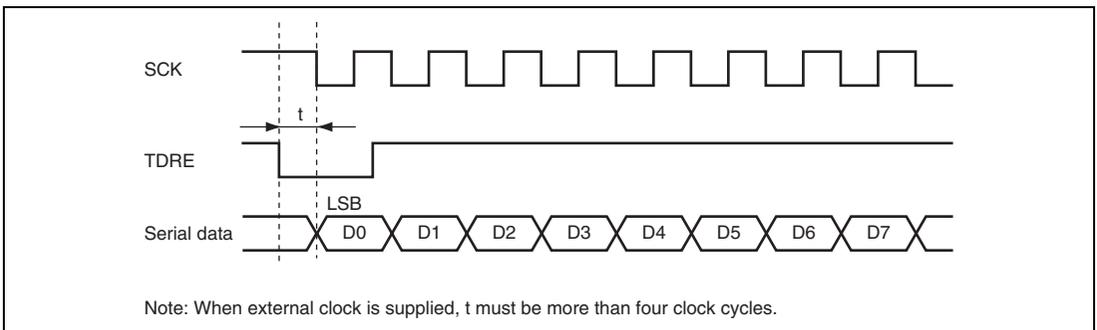

Figure 14.33 Sample Transmission using DTC in Clocked Synchronous Mode
1. When the external clock source is used as a synchronization clock, update TDR by the DMAC or DTC and wait for at least five $P\phi$ clock cycles before allowing the transmit clock to be input. If the transmit clock is input within four clock cycles after TDR modification, the SCI may malfunction (figure 14.33).